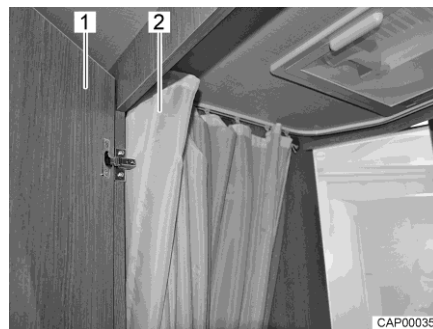

Fig. 126 Toilet compartment with shower
- For showering, close the door (Fig. 126,1) and completely close the shower curtain (Fig. 126,2) so that all walls are protected.